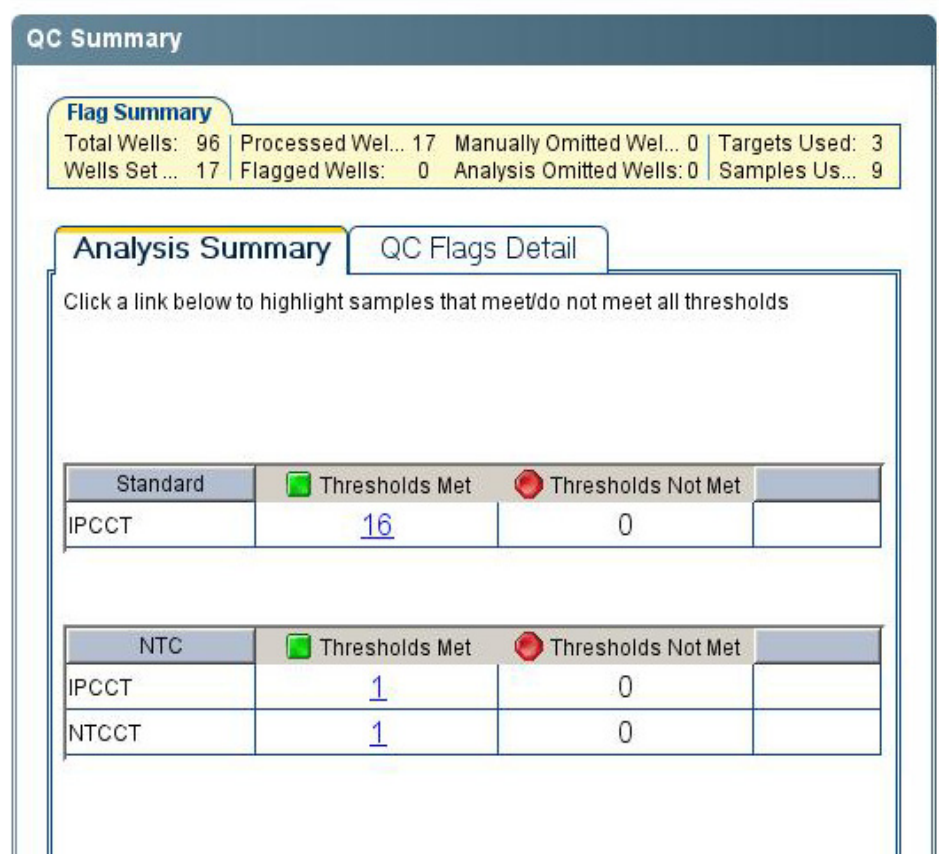

Figure 20 Analysis Summary tab
2. In the QC Summary area, select the **Analysis Summary** tab to display areas that list the HID-specific flags that you selected to include in the data analysis and indicate the number of wells that meet/do not meet the threshold that you set (Figure 20).